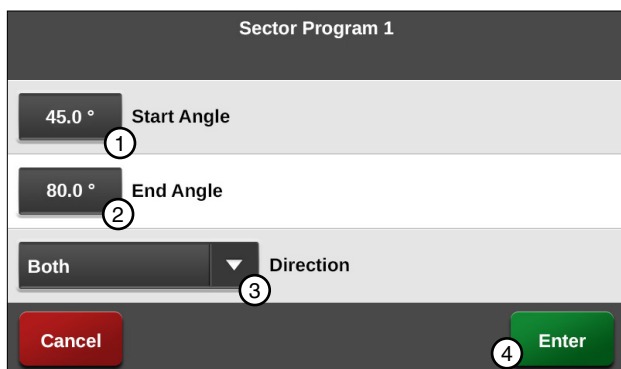

Figure 150-3 1. Start Angle 2. End Angle 3. Direction Drop-Down 4. Enter
3. Select the **Start Angle** field. Refer to Figure 150-3.